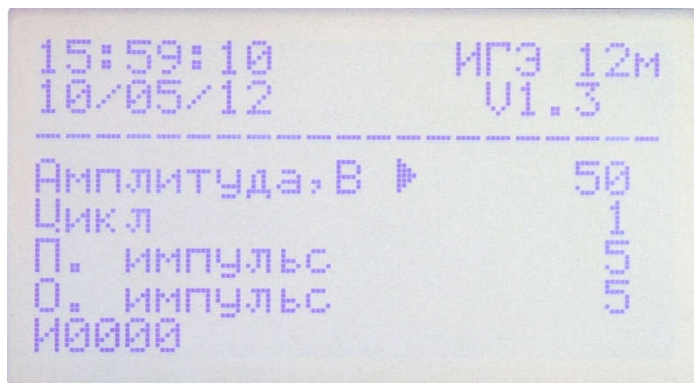

Figure 2
7.2 After the generator is turned on by "**POWER (CETb)**" switch, text and an arrow cursor appear in "**Amplitude**" line (ref. Figure 2). The "**START (ИYCK)**" LED becomes green, indicating the generator is ready to start. The cursor is moved over lines by "↓" and "↑" keys.
7.3 The output pulse amplitude is set by "+" and "-" keyboard keys. The cursor has to be in "Amplitude (Амплитуда)" line (ref. Figure 2). Values ranging from 50V to 12000V, and a voltage pulse amplitude setting increment ranges from 50V to 1000V 10V, from 1000V to 12000V – 50V can be selected.